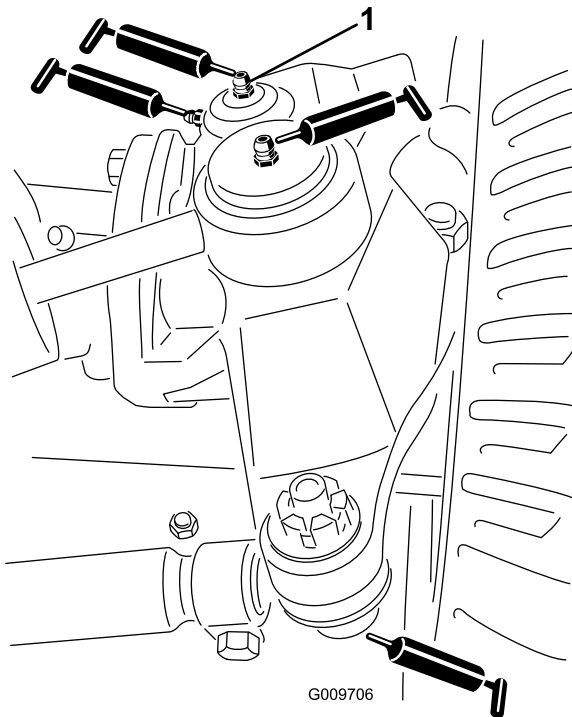

Figure 42
- Steering-cylinder ball joints (2) as shown in Figure 42
- Tie-rod ball joints (2) as shown in Figure 42
- Kingpin bushings (2) as shown in Figure 42